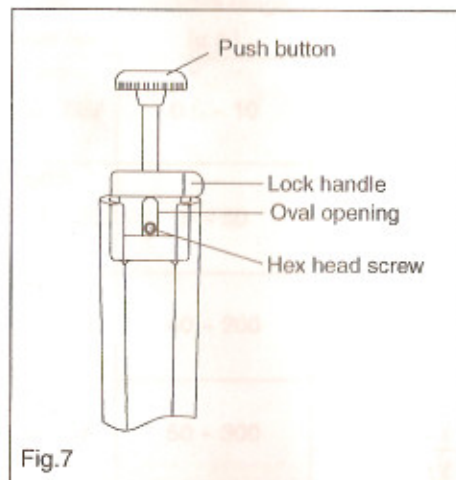

Fig.7
2. Loosen the lock handle by turning it counter clockwise and stop when the oval opening on the lock handle faces you. (Fig.7)
3. Rotate the push button until one of two hex head screws can be seen through the oval opening. (Fig.7)